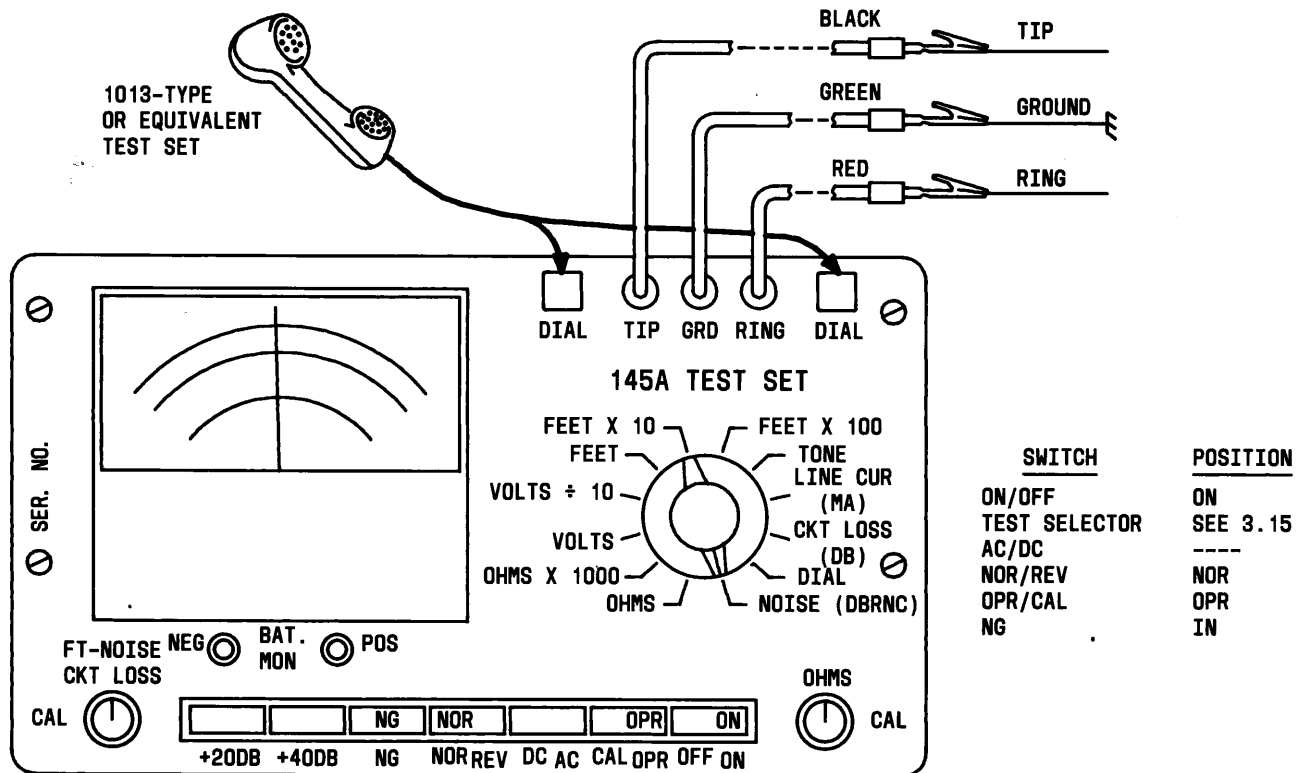

Fig. 11—Longitudinal Noise Measurement
3.15 Longitudinal Noise Measurement (Fig. 11): This test measures noise to ground of subscriber loops.